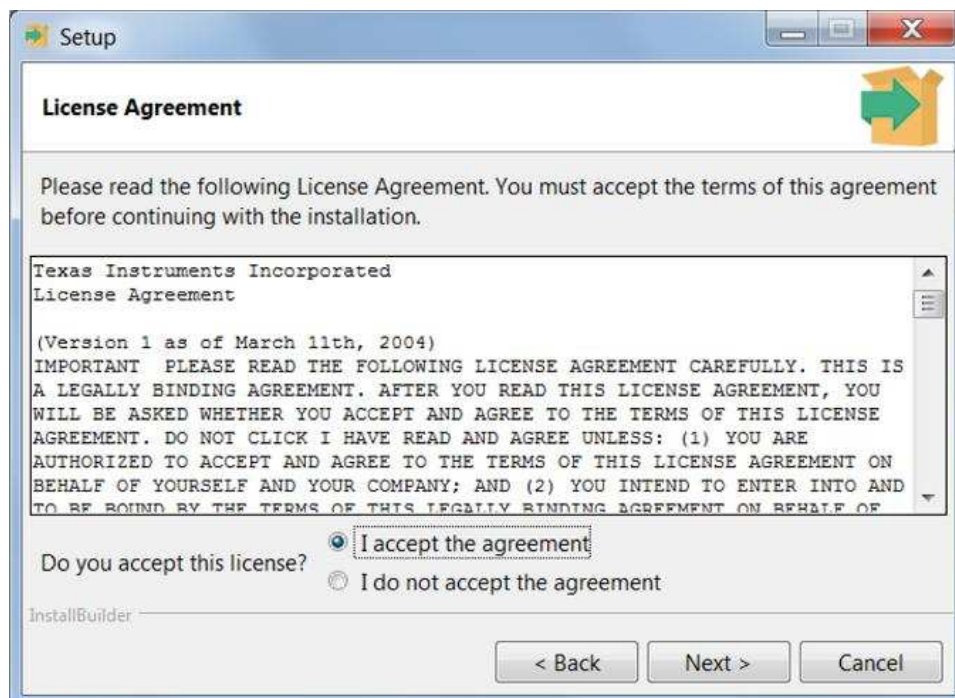

Figure 2-8. License Agreement
2. Read and accept the License Agreement and click Next, as shown in Figure 2-8.